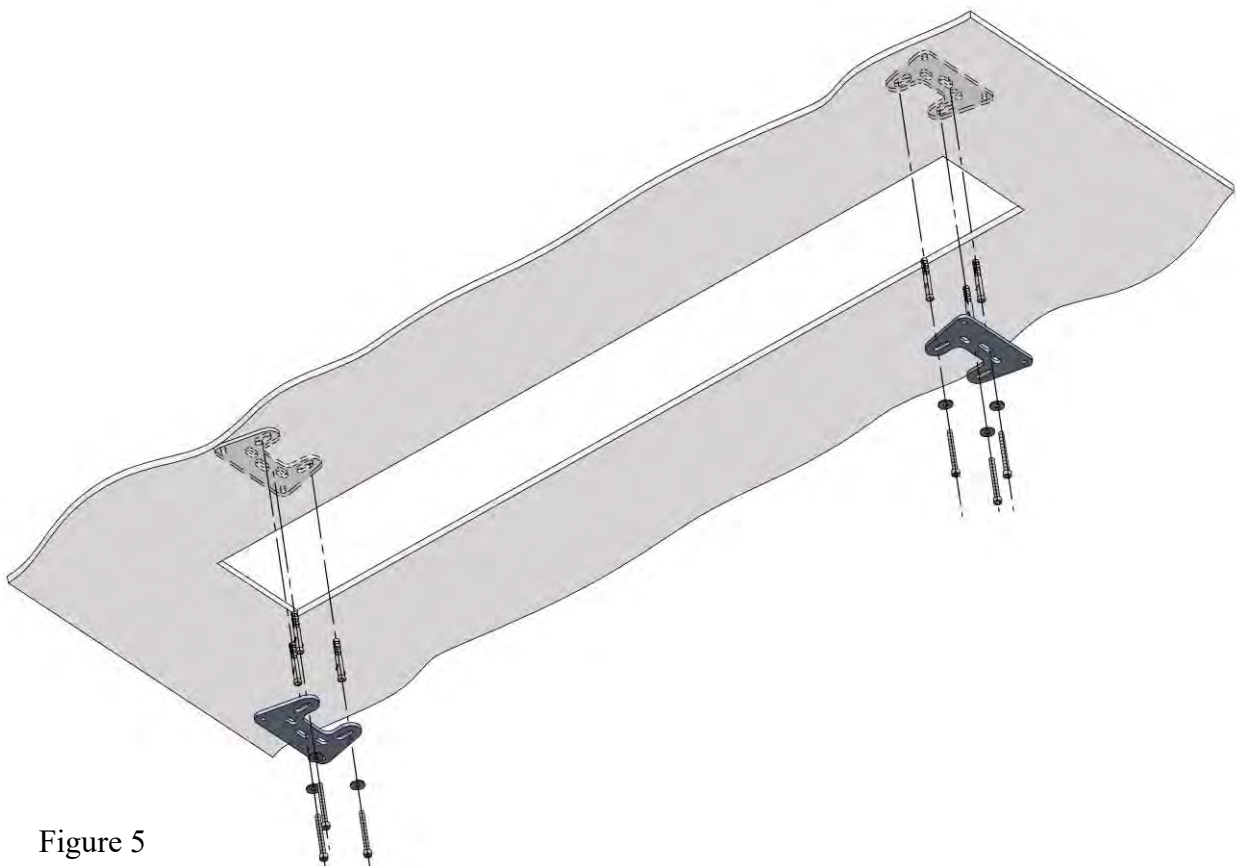

Figure 5
6. Using the rawlplugs and screws included in the package fix the mounting brackets to the primary ceiling (**Figure 5**).